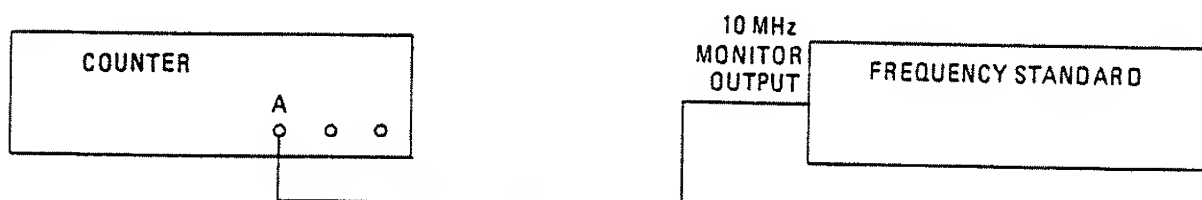

Fig. 6.18 Connections for Internal Frequency Standard PVP
- (1) Turn on the counter. Select function FREQ A. Verify that 00000000 is displayed. If Option 04E is installed, press the RESOLUTION key until 000000000 is displayed.
- (2) Connect the test equipment as shown in Fig. 6.18.